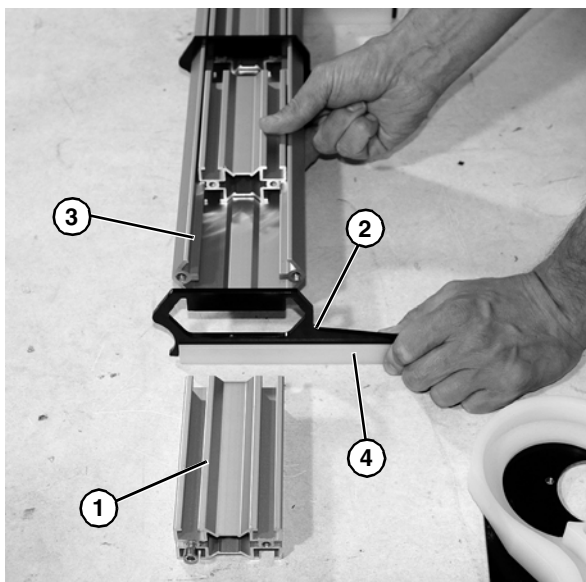

Figure 61
14. Remove each extrusion (Figure 61, item 1) and support plate (Figure 61, item 2) from crossmember (Figure 61, item 3).
15. Inspect and replace wear strip (Figure 61, item 4) if necessary.